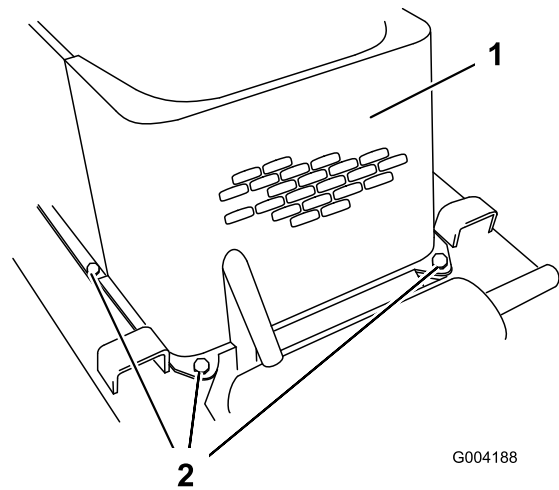

Figure 32
5. Remove the 4 bolts securing the front screen to the frame (Figure 32).